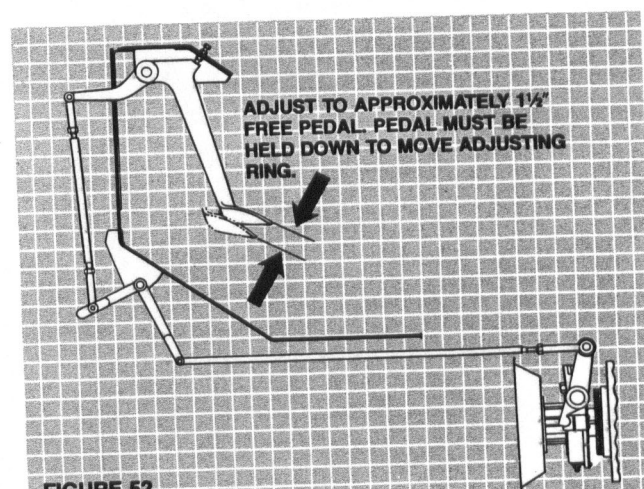

FIGURE 52
2. There must be 1½" of free pedal at the top of the stroke. If not, the clutch will slip or burn out. (Fig. 52) This adjustment is made internally in the clutch - **never with the linkage**.